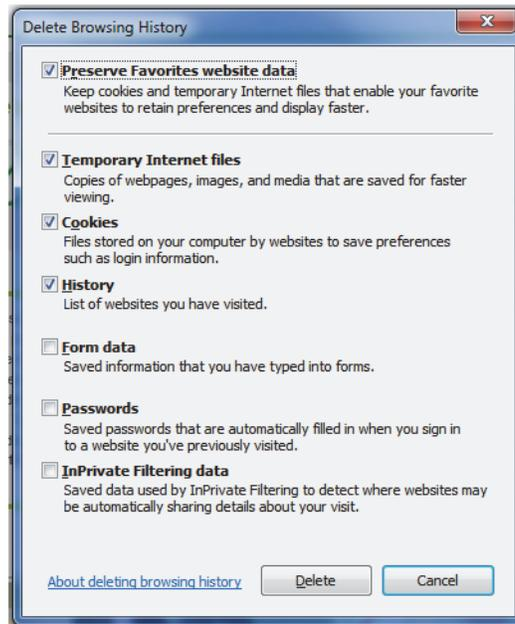
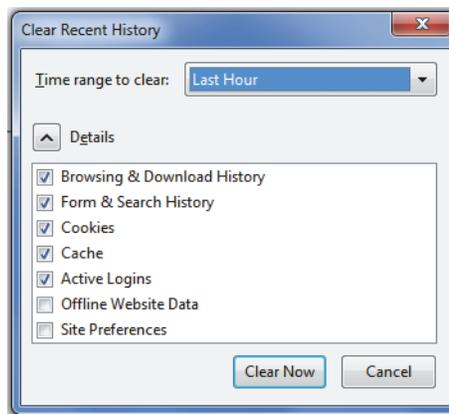

Figure 3-1 Internet Explorer Delete Browsing History
Figure 3-2 Firefox Clear Recent History
2. In the dialog box that appears (it varies for each web browser), select an option to clear temporary internet files or "cache". See examples in Figure 3-1 and Figure 3-2 on page 3-25.